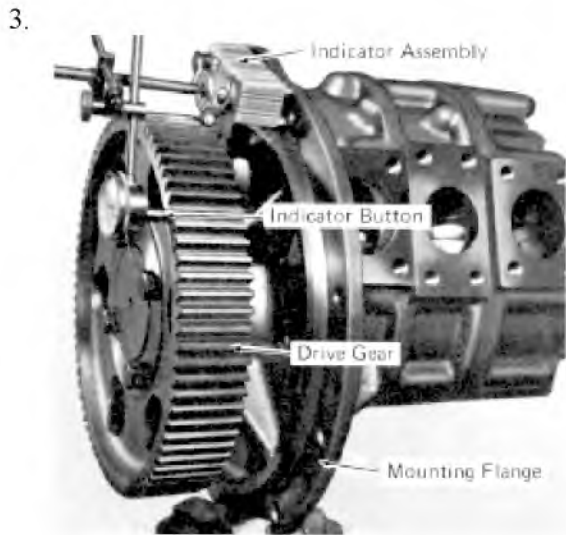

Fig. 9-15 - Checking Pump Drive Gear End Thrust
2. Check the thrust of the drive gears. This may be done by securing an indicator on the pump flange with the indicator button contacting the rim of the pump drive gear, Fig. 9-15. Push the drive gear inward so that all clearance is located at one end, then set the indicator to zero. Pull the drive gear outward to determine the amount of thrust clearance.
2. Check the thrust of the pump drive gears. This is done using the same indicator arrangement shown in Fig. 9-15 for the main lube oil pump. Attach the indicator holder to the pump flange with the